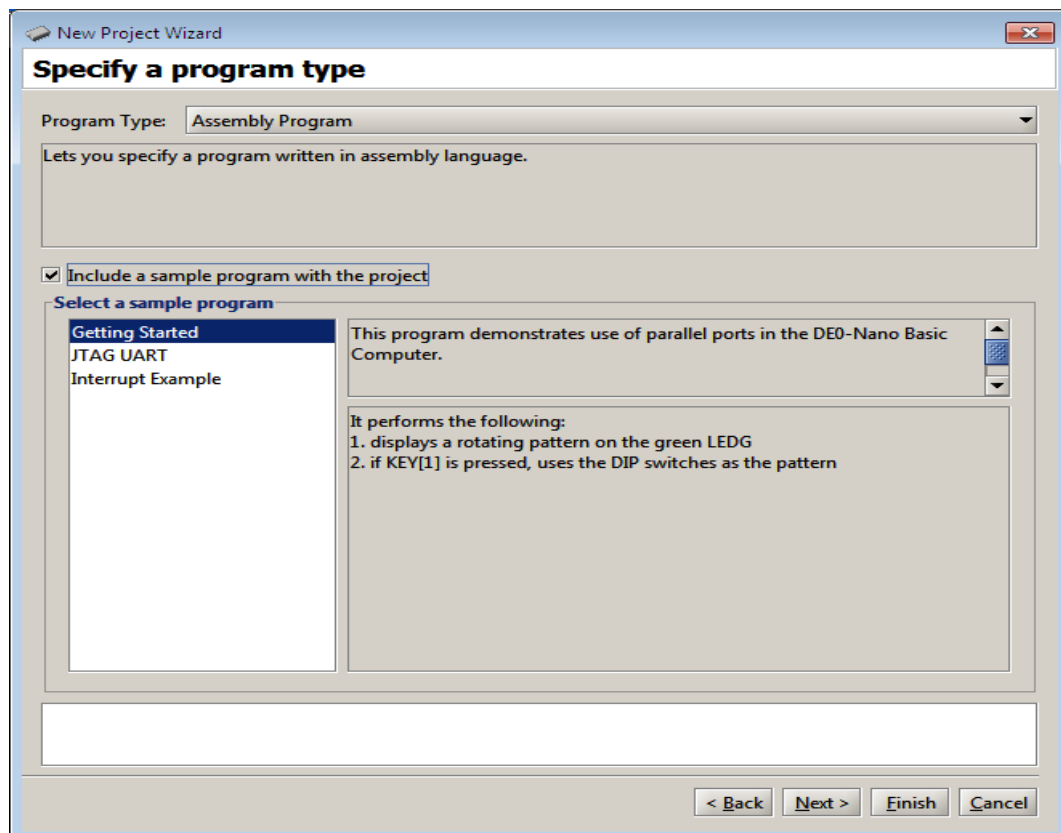

Figure 5: Selection of an application program.
4. In the window in Figure 5 you can specify the type of application programs that you wish to run. They can be written in either the Nios II assembly language or the C programming language. Specify that an assembly language program will be used. The Altera Monitor Program package contains several sample programs. Select the box Include a sample program with the project. Then, choose the Getting Started program, as indicated in the figure, and click Next.
2. Use the Altera Monitor Program to create a new project in this directory; we have chosen the project name `part2`. When you reach the window in Figure 5 choose Assembly Program but do not select a sample program, as shown in Figure 12. Click Next.